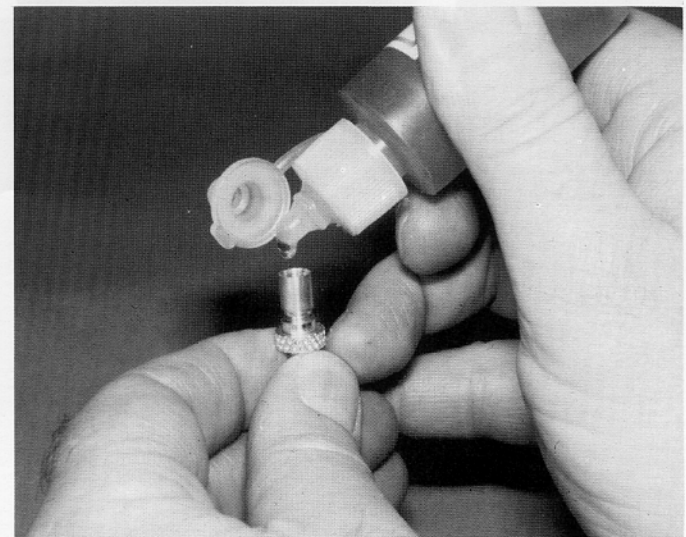

**Fig. 41**
□ **Fig. 41**—Slip the red O-ring onto the shock shaft and then slip the black plastic washer on.